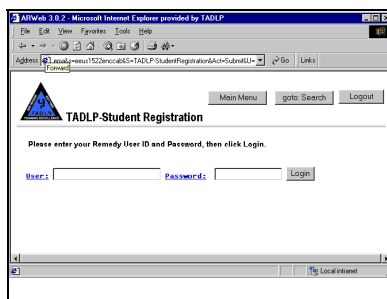

FIGURE III.2
- 4) The login screen is displayed on all options except for the Newsletter. (see figure III.2) You must put the cursor in the "user" block of the login screen. Enter your user ID (I.G.: JRAC1234), in upper case and a password only if you were assigned one by the TAC Help Desk. Click on the login button.